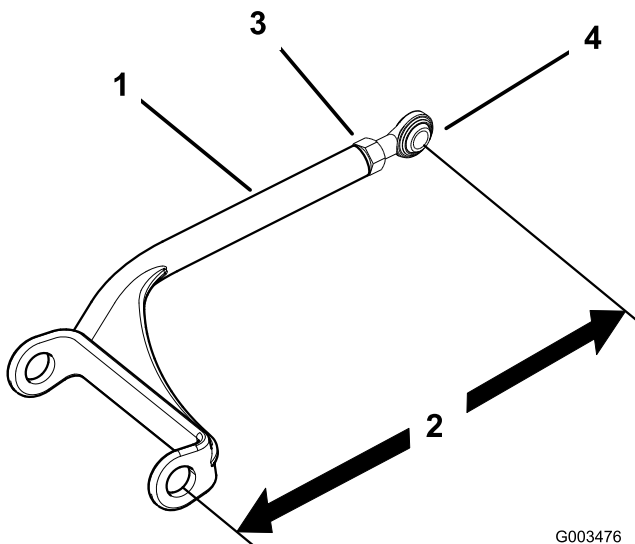

Figure 51
1. Loosen the jam nut and rotate the ball joint counterclockwise, one turn at a time (Figure 51).
2. Adjust each side the same amount. Each push arm should have a length of 15-1/8 inch (384 mm) (Figure 51).